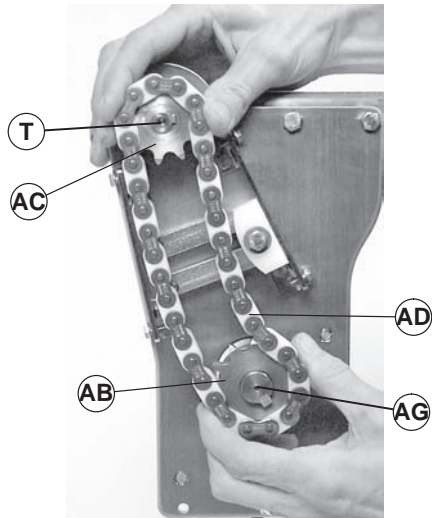

Figure 13
6. Install timing chain (Figure 13, item AD) over sprockets (AB and AC). Install timing chain and sprockets on conveyor input shaft (T) and gearmotor output shaft (AG). Do not tighten sprocket set screws.